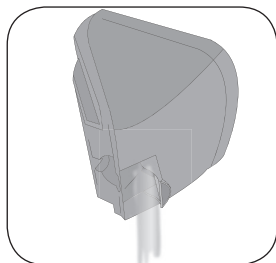
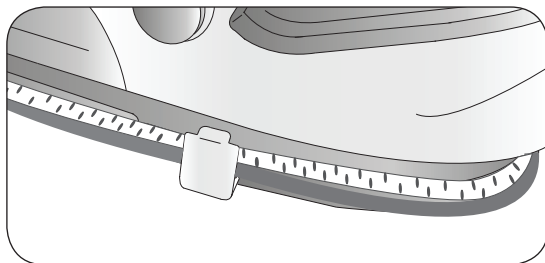

Fig. 11
Fig. 12
Set the temperature control knob (I) to "min". Unplug it from the electric outlet. Let the iron cool down on its stand, taking care not to touch the power cables and connection with the hot parts of the appliance. Remove the anti-scale cartridge and remove the water that might have entered inside the cartridge. Empty the water tank completely so as to prevent the water from stagnating, which may form lime deposit (Fig. 11). Put the power supply cable and the steam pipe cord back inside their seat (Fig. 12). Put the appliance back on top of a stable surface and out of the reach of children.